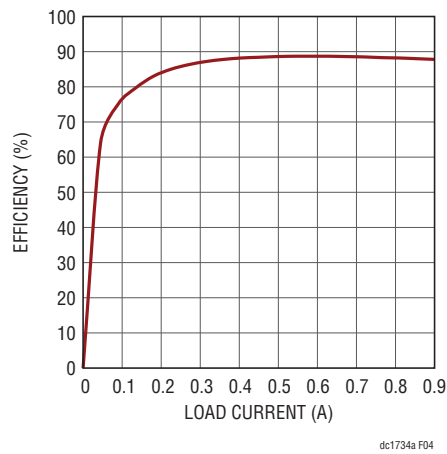
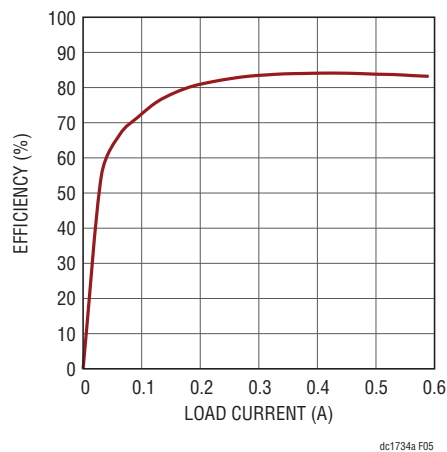

Figure 4. Channel 1 Boost Regulator Efficiency at  $V_{IN} = 5V$
Figure 5. Channel 2 Inverting Regulator Efficiency at  $V_{IN} = 5V$
4. Once the proper output voltage is established, adjust the load and the input voltage within the operating range and observe the output voltage regulation, ripple voltage, efficiency and other parameters. The efficiency graphs of the two channels are provided in Figure 4 and Figure 5.